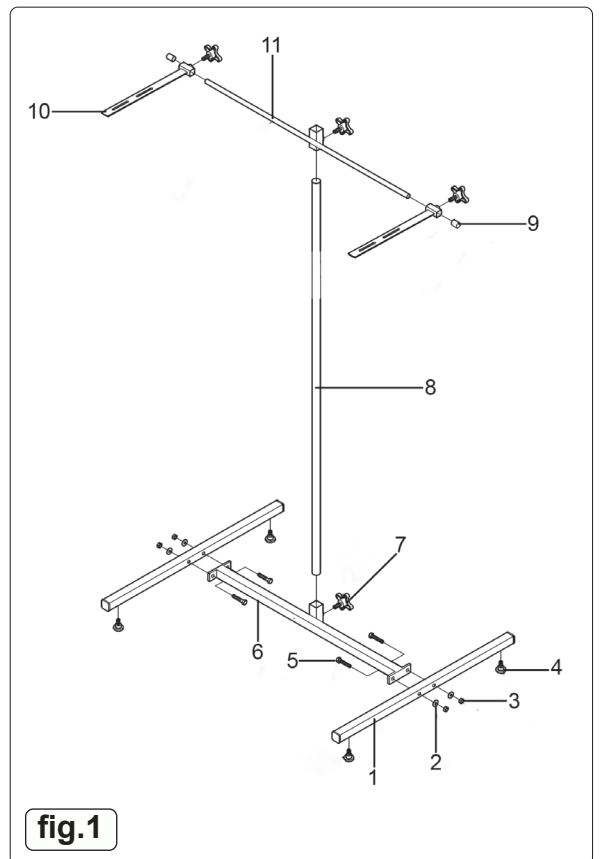

fig.1
- 4.1. Check the contents against fig.1 and the parts list to confirm that all are present, and to familiarise yourself with the parts.